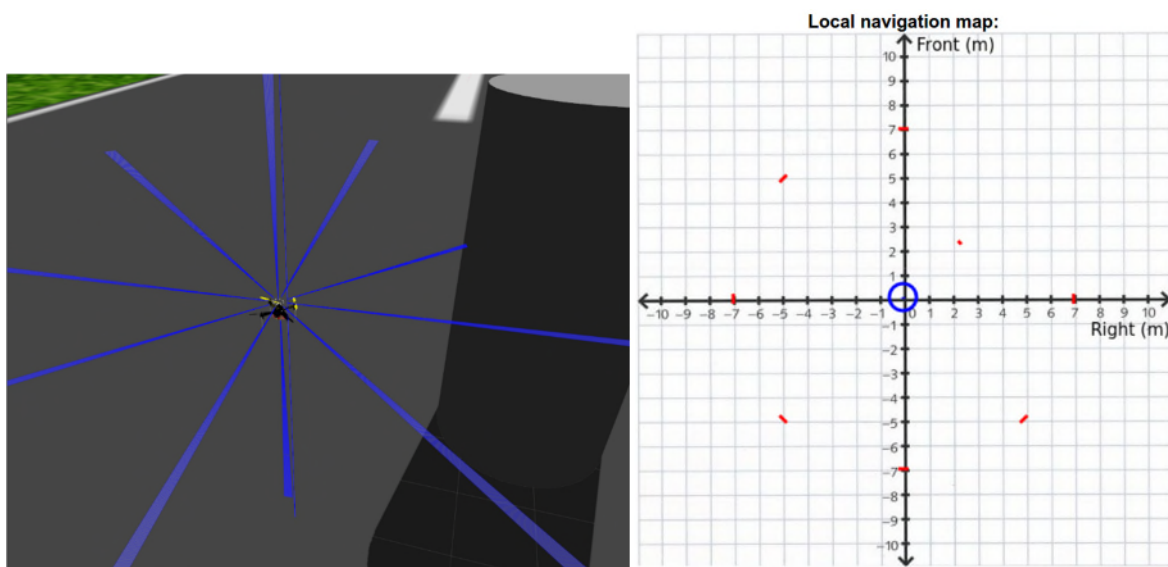

Figure 11 – Local Navigation Map for Commanding the Quadcopter
- **GoTo** This is the navigation action. It allows you to send a navigation goal to the drone within an area of 10 meters around it. The goal is given by the local navigation map. You must drag the blue circle to the desired position before pressing the “GoTo” button. The distance and direction are known thanks to the grid and axis represented. In this map the obstacles detected by the ring of ToF sensors are also shown in red (within an area of 7 meters around the drone). *Figure 11* shows an example in which an obstacle has been detected at the front-right side at a range of approximately two metres.